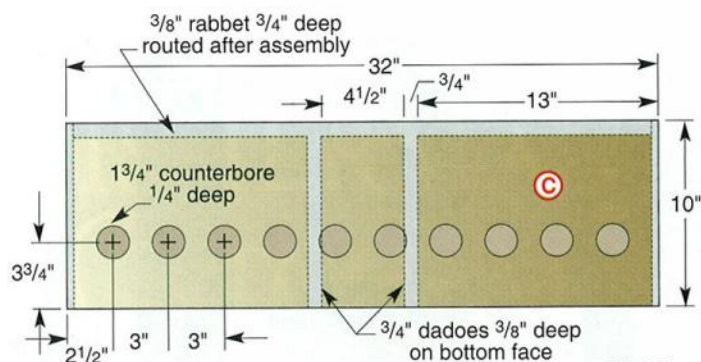

Fig.3
3 LAY OUT THE HANDLE COUNTERBORES IN THE MIDDLE SHELF (C) and the rod slots in the top shelf (D) by referring to **Figure 3**. Drill the 1 3/4" dia. counterbores in the middle shelf and 7/8"-dia. holes in the top shelf with Forstner bits (see the **Convenience Plus Buying Guide**). Use a backer board when drilling through the top shelf to prevent tear-out.
4 MARK TANGENTS TO THE HOLES IN THE TOP SHELF (D) to the front edge of the piece, with a square and pencil. Cut along these marks to complete the U-shaped slots shown in **Figure 3**.
5 PUT A 3/4" DADO SET INTO YOUR TABLE SAW, and cut the rabbet along the top rear edge of the top shelf (D) where shown in **Figure 3**. Refer to the same drawing to mark the location of the dados on the bottom face of the middle shelf (C). The top face of the bottom shelf (B) has matching dados, so you can cut both sets at the same time.